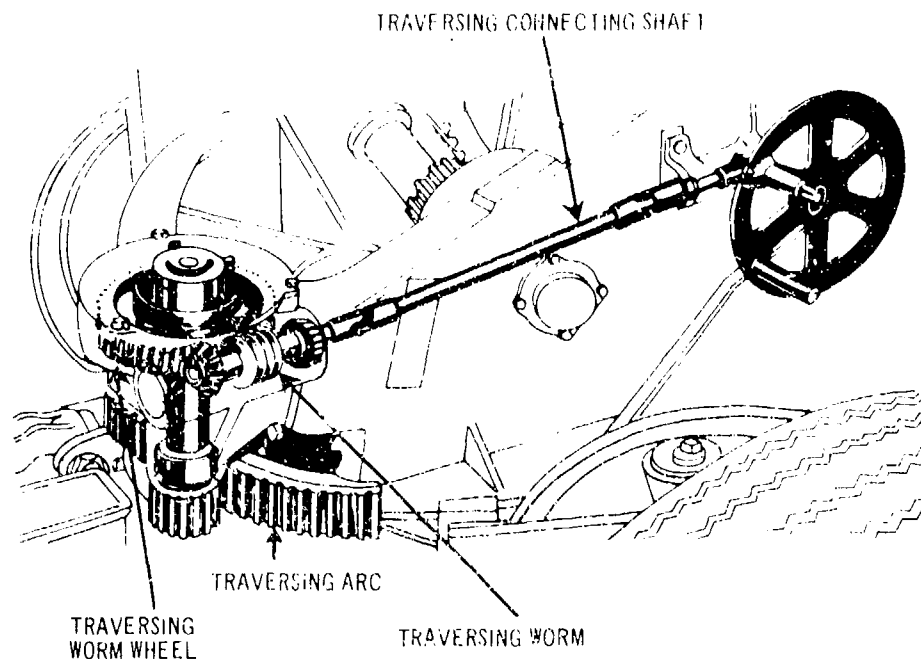

Figure 5-11. Arc and pinion type of traversing mechanism.
*b. Traversing mechanism.* The traversing mechanism (fig 5-11) controls the movement of the weapon in azimuth and is of the arc and pinion type, employing a worm and worm wheel. The worm and worm wheel create an irreversible flow of power, thus preventing the weapon from traversing due to shock of firing. The rate of traverse per turn of the handwheel is approximately 10 mils. Turning the handwheel